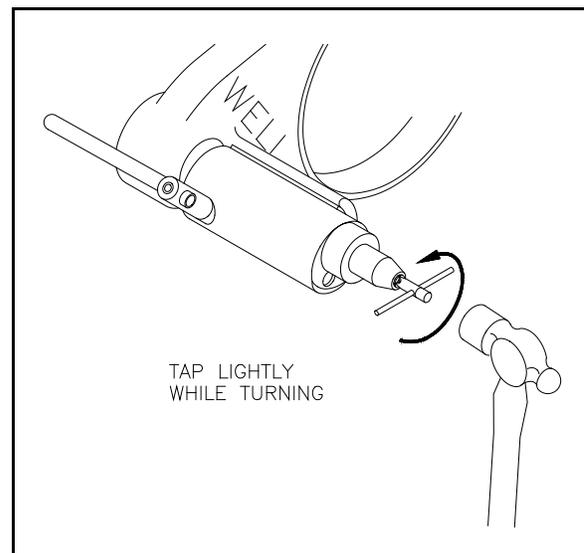

Figure 5.
6.4.3 Insert the collet wrench. Tap the end of the collet wrench **LIGHTLY** while turning the collet wrench counterclockwise. See Figure 5.